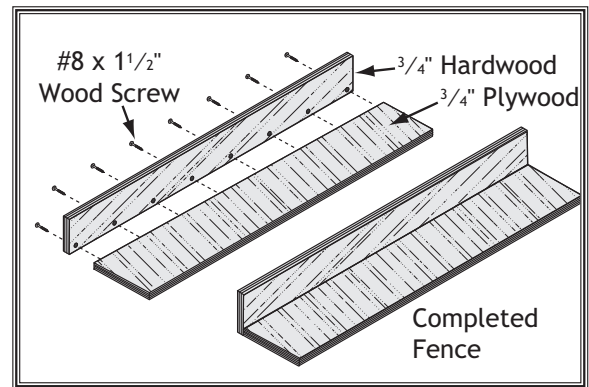

Figure 85. Location of pilot holes.
2. Pre-drill and countersink eight pilot holes $\frac{3}{8}$ " from the bottom of the 3" wide board, as shown in **Figure 85**, then fasten the $5\frac{1}{4}$ " and 3" wide boards with eight #8 x $1\frac{1}{4}$ " wood screws.